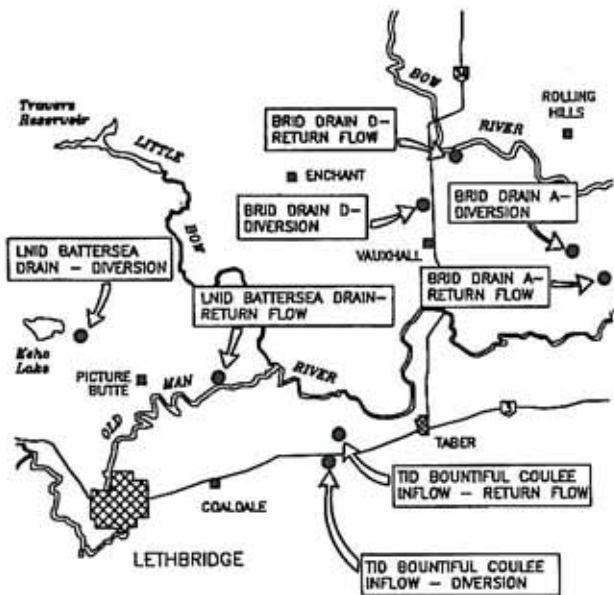

Figure 1. Surface water quality sampling locations
Greenlee monitored surface water quality from May 6 through October 5, 1992, at eight sites consisting of one water diversion location and the related return flow stream in each of four drainage areas in three irrigation districts (Figure 1). Water samples were collected weekly and were analyzed for pH, electrical conductivity (EC), soluble cations, sodium adsorption ratio (SAR), soluble anions (including nitrate) and TDS. In addition, water samples collected on May 11 were analyzed for nine herbicides, water samples obtained on June 14 were analyzed for 20 herbicides, three insecticides and two fungicides, and water samples gathered on July 7 from the four return flow streams were tested for 10 herbicides. Monitoring results were compared to Canadian water quality guidelines and changes in irrigation water quality between diversion locations and the corresponding return flow streams were assessed. This study did not attempt to address the specific sources of any contaminant detected.